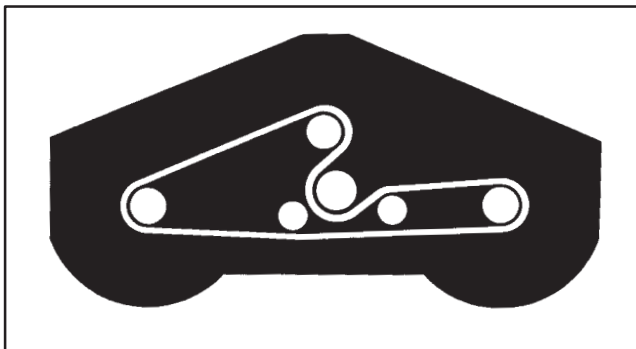

Figure 23
- 5. Route new belt around spindle pulleys and thru idler pulley assembly, as shown in figure 23.